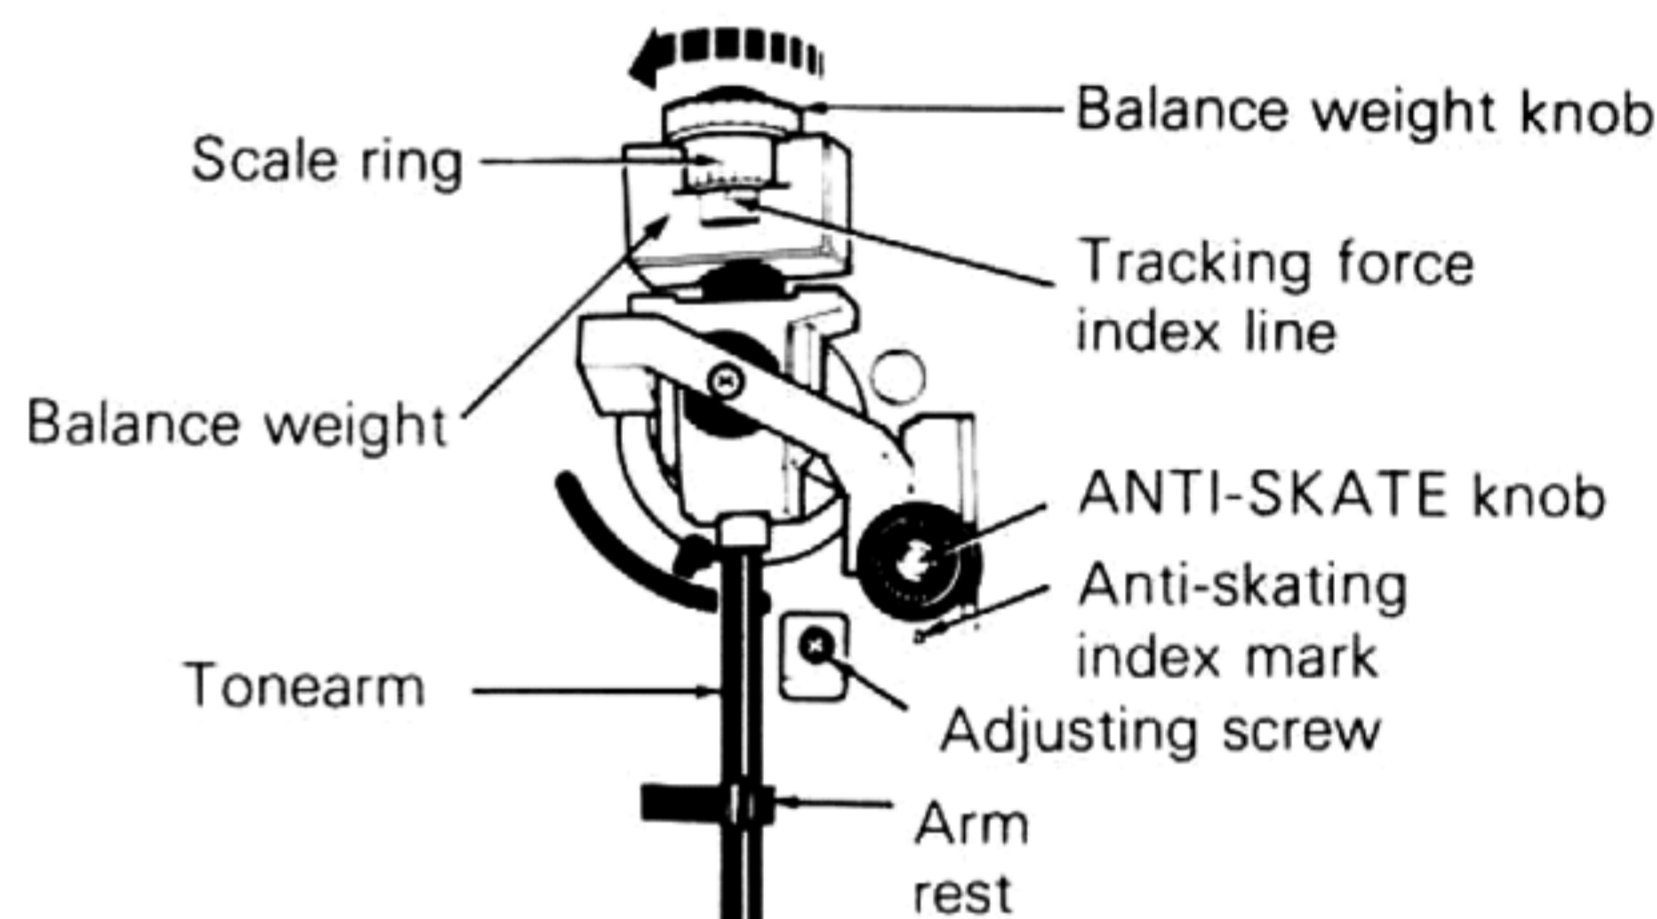

Fig. 3
(See Fig. 3)
4. Rotate the balance weight knob in the direction of the arrow in the figure and adjust to the recommended value of the cartridge's tracking force. (See Fig. 3)